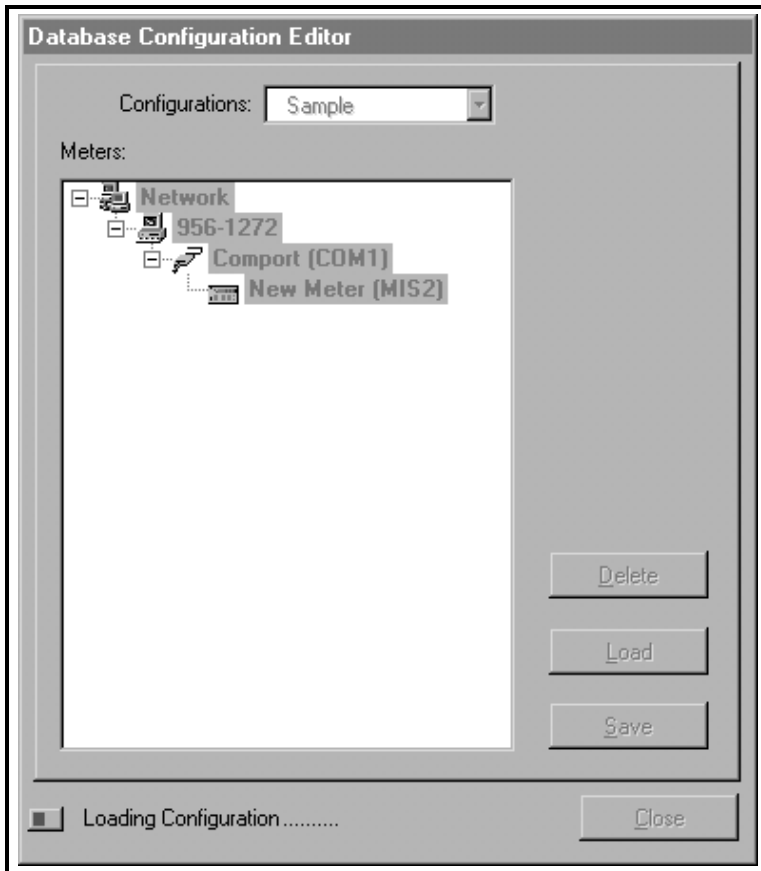

Figure 5-16: Loading a Configuration
3. The screen shown in Figure 5-16 below is displayed while PanaView loads the selected configuration. During this process, the cursor and all of the option buttons are deactivated.